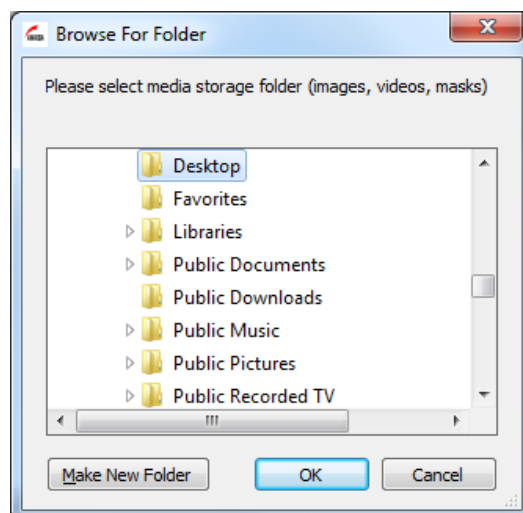
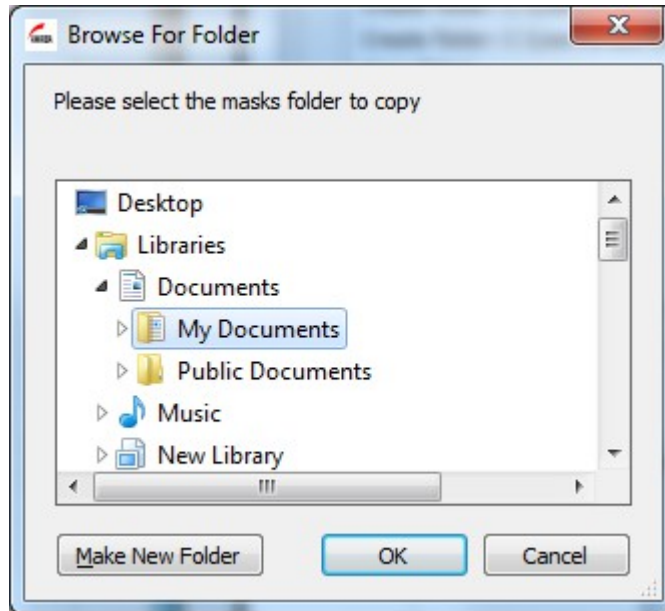

Figure 3: Choose the media storage folder
Figure 4: Choose mask copy folder
5) Select where the correction masks folder are, as in figure 3. This will copy all the correction masks (awplt, awblc and awwlc files) from that folder, to the folder chosen in figure 4.